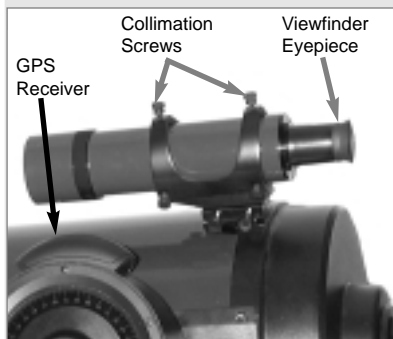

Fig. 12: Viewfinder collimation screws and eyepiece.
5. Look through the viewfinder eyepiece (**Fig. 12**) and loosen or tighten, as appropriate, one or more of the viewfinder collimation screws (**Fig. 12**) until the viewfinder crosshairs are precisely centered on the object you previously centered in the telescope eyepiece.